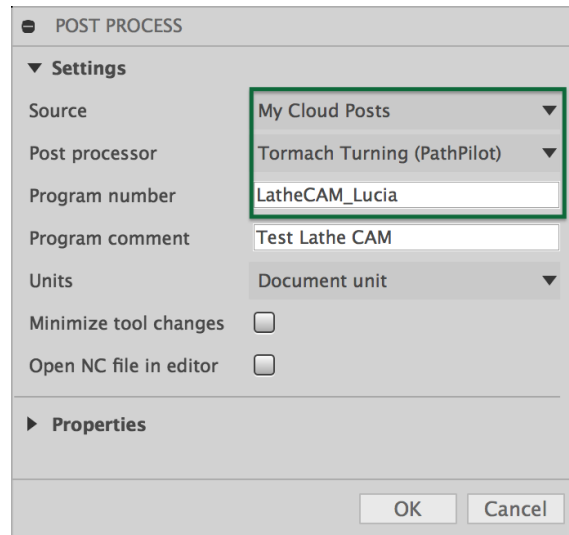

FIGURE 2.2: POST-PROCESS SETTINGS.
- Change “Program Number” to **LatheCAM_Surname** which can be seen in Figure 2.2. You should not need to open the “Properties” dropdown. Click **OK**.